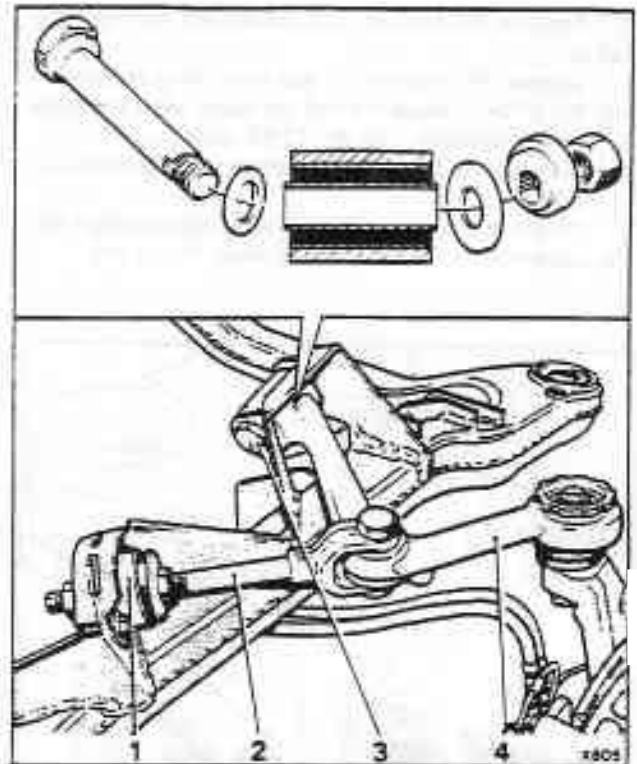

Fig. H4-5 Compliance assembly
5. Note the position of the arrow on the compliance lever pivot bolt (see fig. H4-5). Remove the bolt and withdraw the lever from the sub-frame bracket. Collect the special washers.
1. Ensure that the eccentric adjustment components on the compliance lever pivot are correctly located in the sub-frame bracket (see fig. H4-5). Turn the bolt until the arrow is in the position noted on removal.
Upper ball joint (see fig. H4-5)